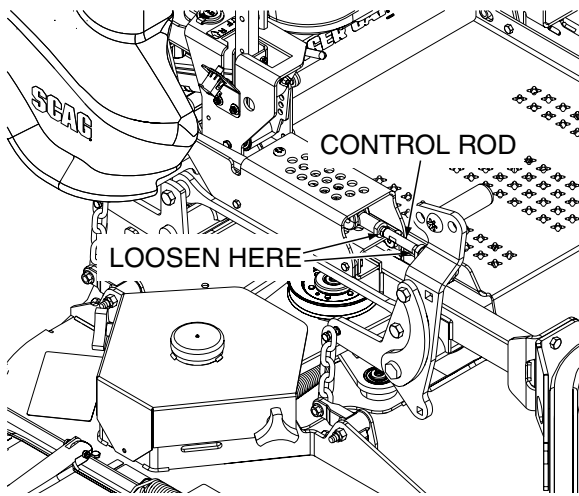

Figure 6-8. Cutter Deck Height Adjustment
- Loosen the jam nuts on both ends of the deck height control rod. See Figure 6-8.
4. Turn the control rod (See Figure 6-8) until the measurement from the floor to the cutter blade tip is at 4-1/2". Tighten the jam nuts on the control rod.